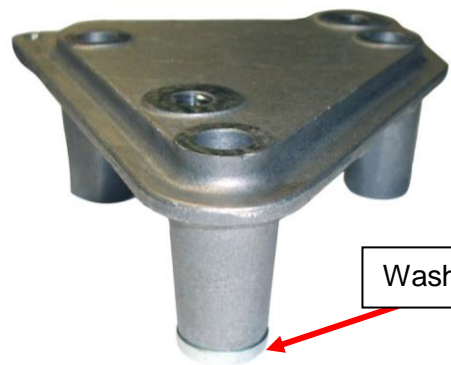
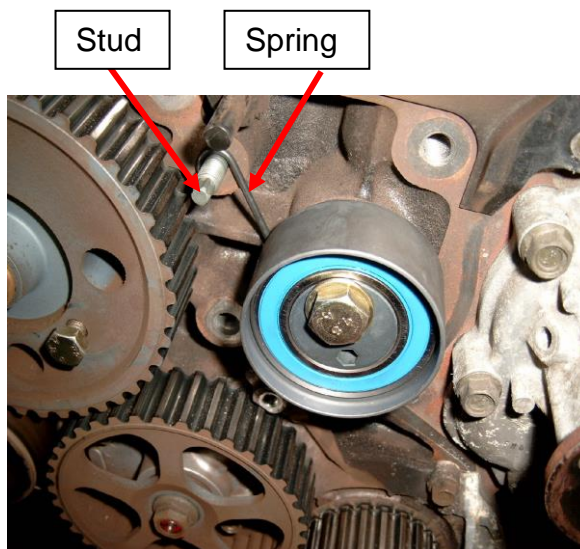

Fig. 4
Fig. 5
K025563XS is supplied with a washer to compensate the lost thickness of the base plate under the shorter leg of the early engine support bracket as in Fig. 4, and contains a stud which is needed to hook the new tensioner spring on (Fig. 5). This K02 can always be used: up to engine nr 328703, using the washer and the stud; and from engine nr 328704 without the washer and the stud.
- 3) Insert and torque (18.6 Nm) the stud at the right hand side of the injection pump pulley (Fig. 5).
- 11) K025563XS: stick the washer (Fig. 4) on the bottom engine support leg (using fixing glue), in order to avoid losing the washer when loosening the support bracket bolt later.